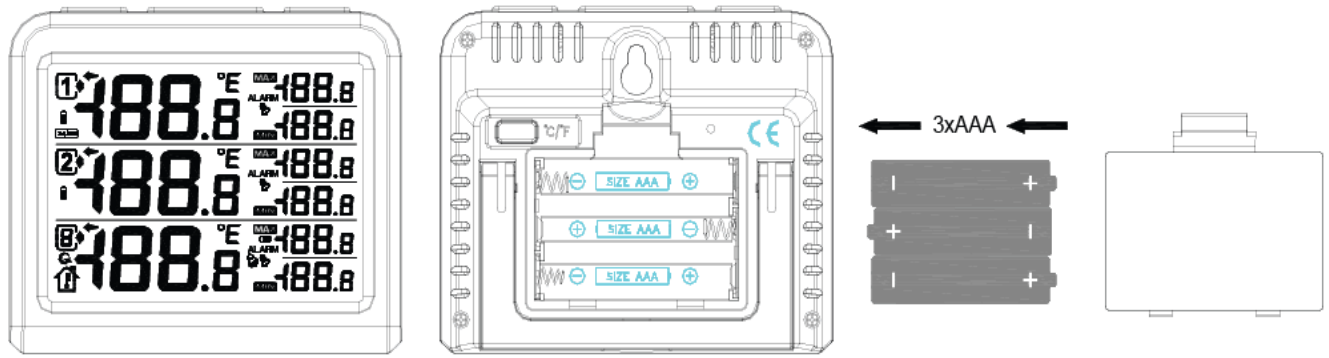

Figure 2
1. Remove the battery door on the back of the display, as shown in Figure 2. Insert three AAA (alkaline, avoid rechargeable) batteries in the back of the display console.